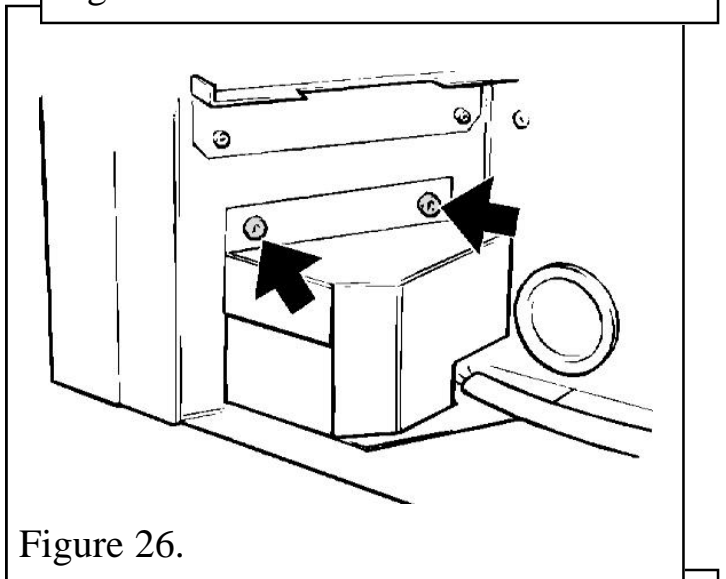

Figure 26.
2. Withdraw the electrical control unit and its heatshield by removing the two fixing screws (See figure 26).
5. With the electrical supply and fan box loom now connected, the enclosure can be replaced as shown in figure 26.